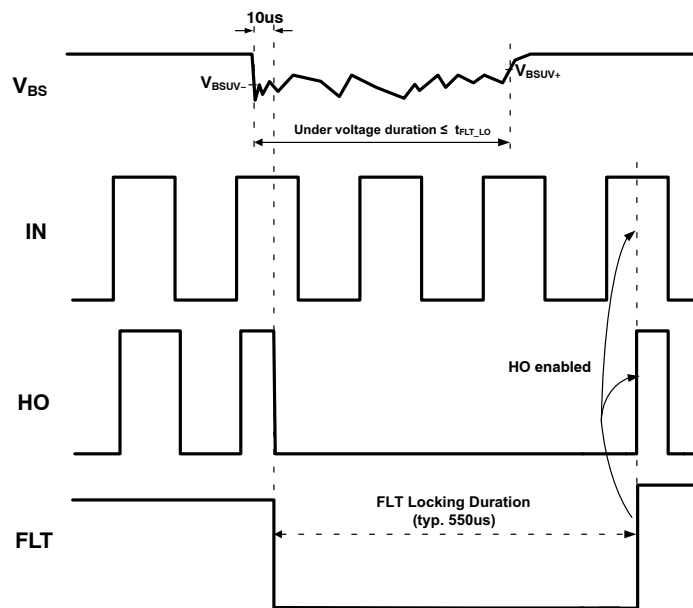

Figure 17. Under-Voltage Condition Shorter than FLT Locking Duration
- ♦ If the under-voltage condition lasts for a duration shorter than the FLT locking duration, the fault pin is released after the FLT locking duration is over, upon which the driver output will begin to follow the input logic as expected (see Figure 17).